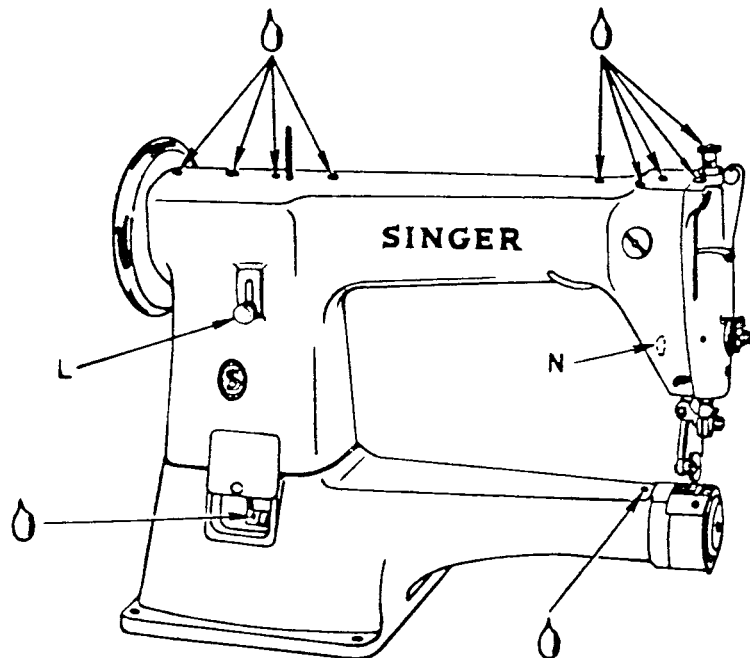

Fig. 1 Oiling Points at the Front of the Machine
Oil should be applied to all oil holes marked with red border and to all oiling places indicated by arrows in Fig. 1.
The length of stitch is regulated by the thumb screw (L, Fig. 1) in the slot in the front of the arm at the left. To lengthen the stitch, loosen the thumb screw (L) and move it upward. To shorten the stitch, loosen the thumb screw and move it downward. When the desired length of stitch is obtained, tighten the thumb screw (L).
Turn the machine pulley over until the needle has reached its lowest point and has risen until the point of the shuttle is at the center of the needle. The eye of the needle should then be .035 - .040 inch below the point of the shuttle. If the needle bar is not set at the correct height, insert a screwdriver in the hole (N, Fig. 1) and loosen the screw in the needle bar connecting stud, then move the needle bar upward or downward as required. After the needle bar is set at the correct height, securely tighten the set screw.